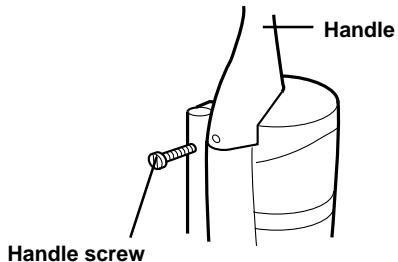

Fig.2
- 2 Line up the hole on the handle with the hole on the side of the vacuum cleaner and insert the screw. (Fig. 2)